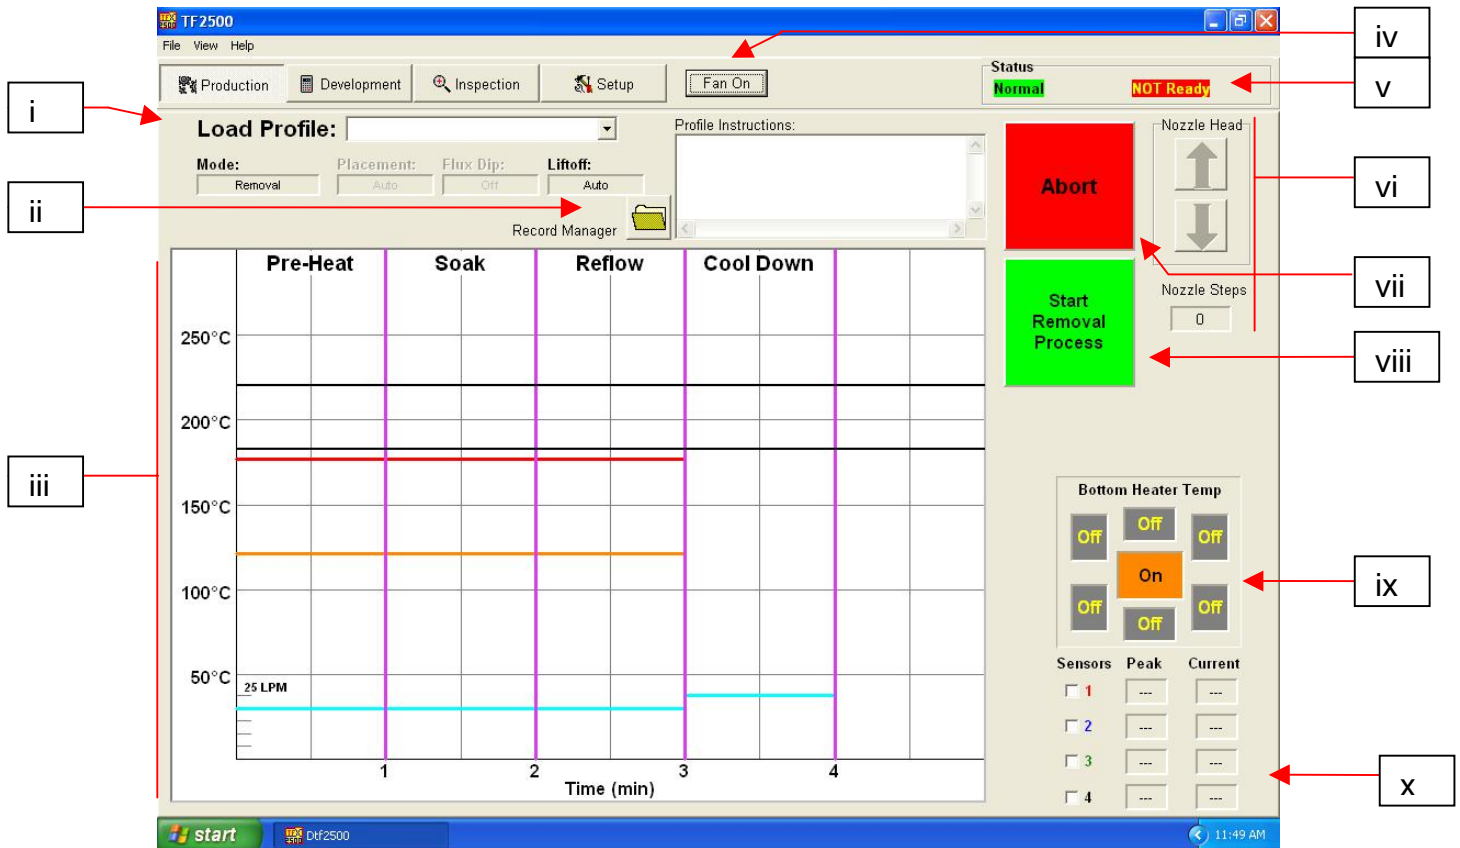

Figure 6
g. Production Screen Features (Figure 6)